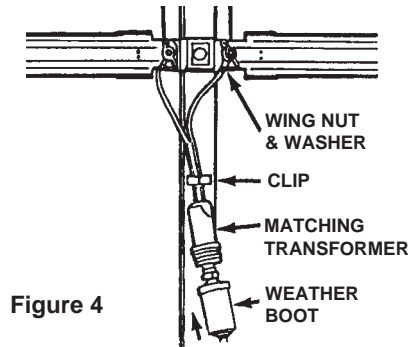

Figure 4
**STEP 8.** Attach matching transformer to downlead stud rivets with washers and wing nuts supplied from hardware bag. See Figure 4.
**STEP 9.** Screw coax downlead onto matching transformer, making sure to slide weather boot over connection. See Figure 4.
**STEP 10.** Secure matching transformer to retaining clip. See Figure 4.